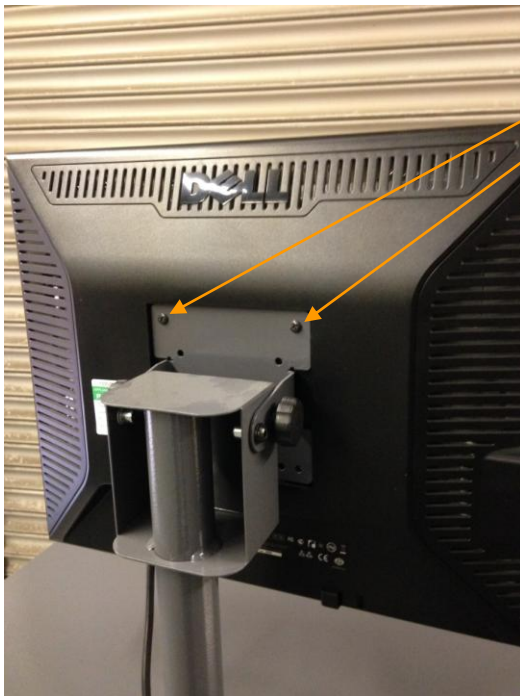

Fig. 4a
- Unpack the monitor and remove the four screws on the monitor mounting panel. Assemble the monitor to the bar mounted monitor bracket and secure using the four screws as shown in Fig. 4a. Fit the monitor signal lead and feed this through the monitor bracket, adjust tilt of screen as required and tighten in position.